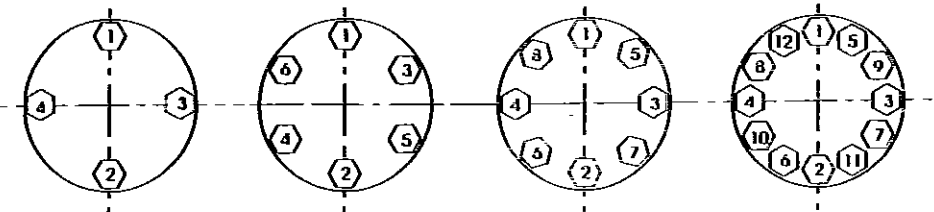

Figure 11 - Torques Sequences and Values for nuts (10)
F. Install bonnet (8) and body stud nuts (10) and tighten. Bonnet must be positioned so the packing flange studs are at a right angle to the flow center line.
Caution: Care must be taken to assure that the cage, seat and bonnet are properly aligned in the body. Tighten nuts (10) until metal to metal contact is obtained with proper bolt torque. Refer to Figure 11 for proper bolt torque and tightening sequence specifications.
G. Insert packing (6) [and lantern ring (7) on valve equipped with an optional leak detection connection]. Refer to Section 7.6 to apply proper order and procedure for packing box filling (standard or optional design).
H. Install packing follower (5) and packing flange (4).
I. Install packing flange stud nuts (3).